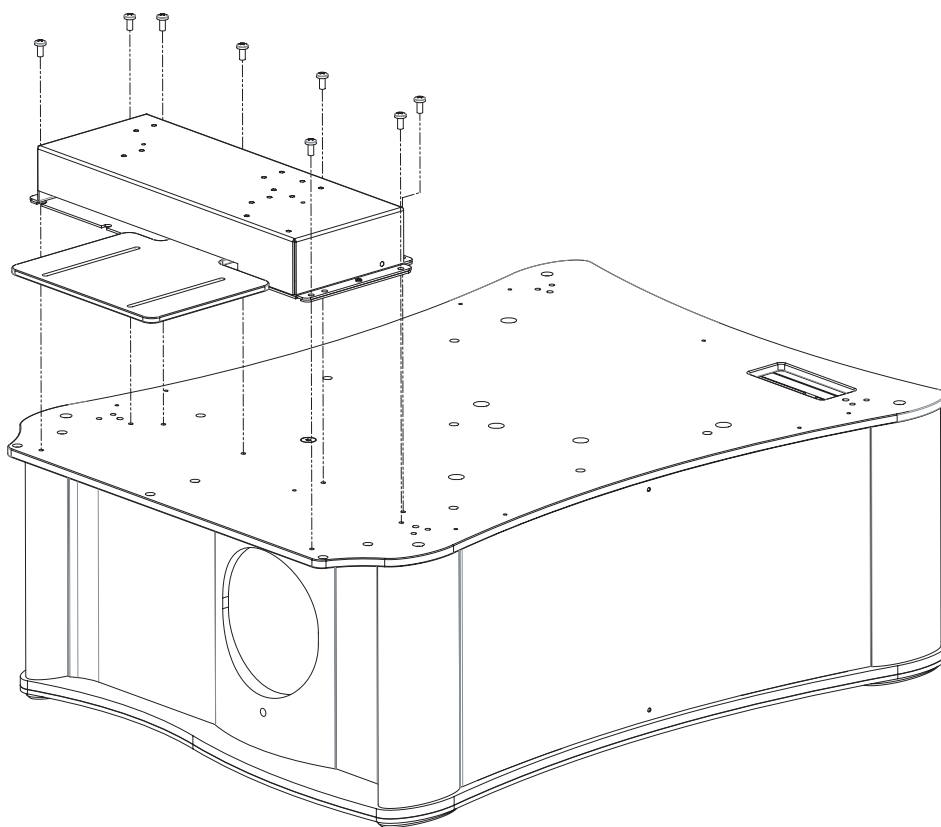

Figure 3-6. Attaching the AutoScope Lens Motor to the Projection Unit
3. Line up the eight mounting holes on the lens motor housing with those on the bottom of the top projection unit. Secure the motor to it with the eight screws provided for this purpose. See Figure 3-6.